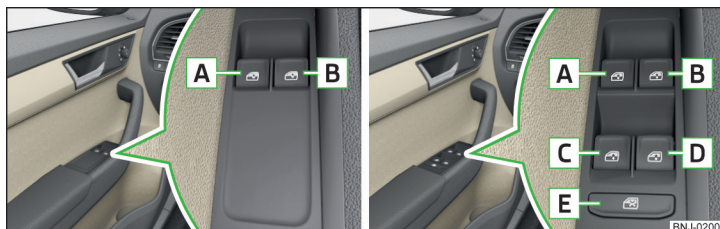

Fig. 45 Buttons for window-openers: Version 1 / version 2
Depending on the equipment configuration, the front windows - **Variant 1** or the front and rear windows - **Variant 2** be operated with the door buttons » Fig. 45.
In **Variant 2** » Fig. 45 the **driver's window** can be automatically fully opened by pressing the button briefly until it stops. When pressed again or after withdrawing the button, the window will stop.
In **Variant 2** » Fig. 45 the **driver's window** can be automatically closed completely by drawing the button to the stop. When drawn again or after pressing the button, the window will stop.
» Press the button **E** » Fig. 45.
- If the rear seats are accommodating people who are not completely independent, e.g. children, it is recommended that for safety reasons the buttons in the rear doors are disabled with the button **E** » Fig. 45.
- **Variant 1** of the power window » Fig. 45 on page 57 **has no** force limiter. The windows should be closed carefully – risk of injury!
- The **passenger window in variant 2** of the power window » Fig. 45 on page 57 **has no** force limiter. The window should nevertheless be closed carefully – risk of injury!